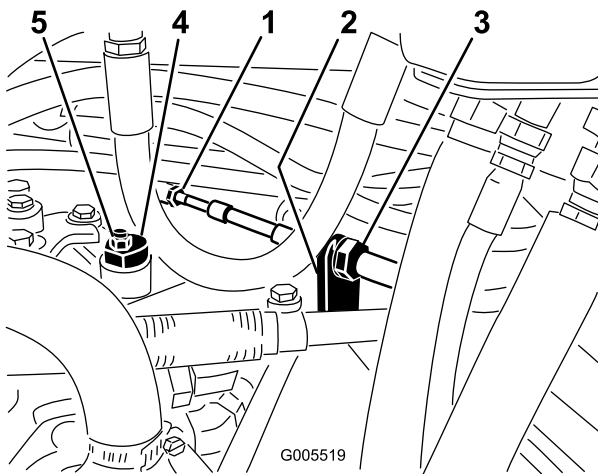

Figure 55
- A. Loosen both jam nuts securing the traction control cable to the bulkhead on the hydrostat (Figure 55). Make sure the jam nuts are loosened equally and sufficiently to allow adjustment.
**Note:** Loosen the nut securing the eccentric to the top of the hydrostat (Figure 55).
- C. Rotate the eccentric until creep does not occur in either direction. When the wheel stops rotating, tighten the nut locking the eccentric and the adjustment (Figure 55). Verify the adjustment with the throttle in the Slow and Fast position.
- D. From each side of the bulkhead, tighten the locknuts evenly, securing the traction cable to the bulkhead (Figure 55). Do not twist the cable.